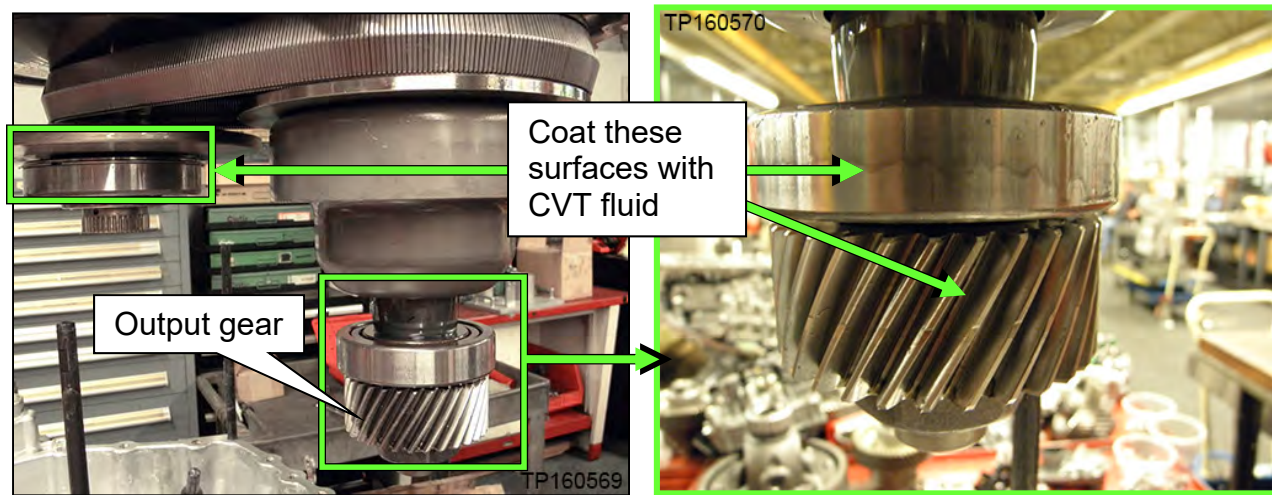

Figure 90
69. Coat the primary pulley bearing, secondary pulley gear teeth and the secondary bearing with CVT fluid prior to installation (Figure 90).